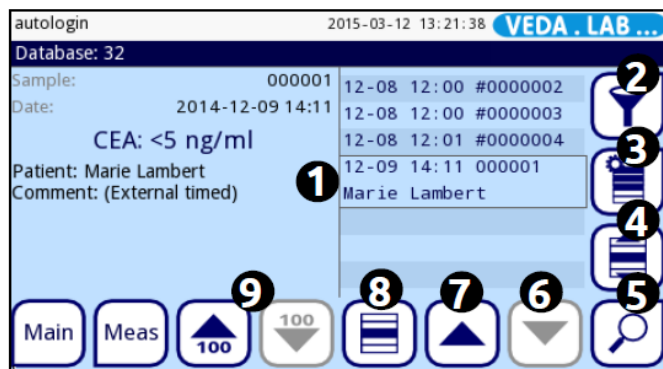
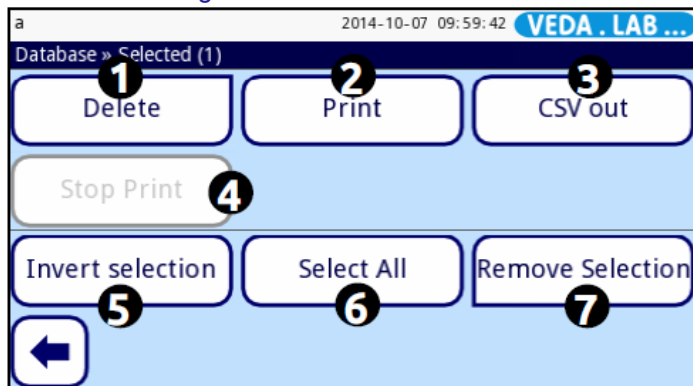
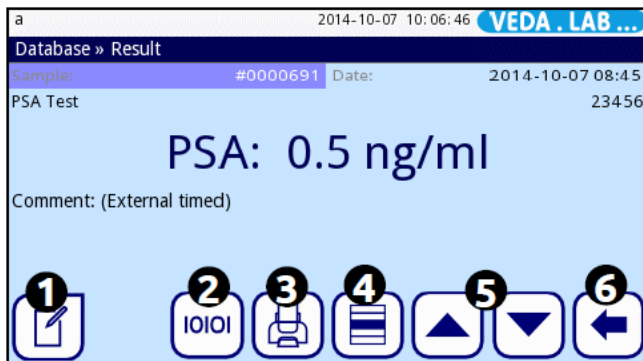
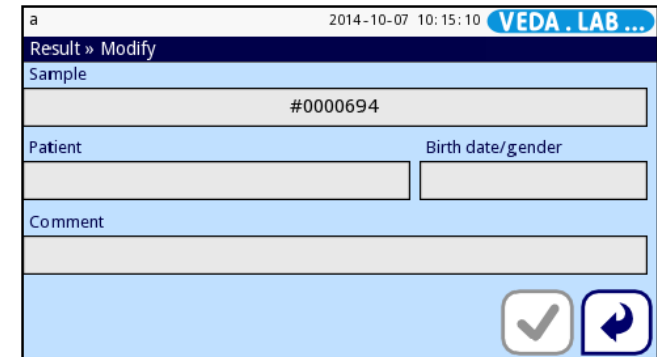

Figure 27: The Database screen with the screen elements labelled
Figure 28: The Database » Selected screen with the screen elements labelled.
Figure 30: The Database»Result screen, with the buttons labelled.
Figure 31: To add details to the test result record, tap inside the text boxes on the Result»Modify screen
2 To display the **Filter** screen, tap the  filter button on the **Database** screen (labelled 3 in Figure 27).
Tap the up and down arrows (labelled 6 and 7 in Figure 27) to move the cursor bar (labelled 1 in Figure 27) in the list of result records over the analysis record that you would like to select, and tap the selection button (labelled 8 in Figure 27). To cancel the selection of a previously selected record, tap the selection button a second time, or see 8.1.2.4.
If there are more than one hundred result records in the database, the **100 up/100 down** buttons (labelled 9 in Figure 27) become active. Tap these buttons to move the cursor one hundred records up or down in the database list.
- Using the up and down arrows (labelled 6 and 7 in Figure 27), move the cursor over each record that you would like to select, and tap the **Select** button (labelled 8 in Figure 27).
- Using the up and down arrows (labelled 6 and 7 in Figure 27), move the cursor over the first or last record in the list that you would like to select, and then tap the selection by movement button (labelled 4 in Figure 27). When you tap the up or down buttons, you will select a result record that is above or below the starting record in the database list.
**1** Select a record in the database (Cf. 8.1.2. Selecting test result records), and tap the **Review the selected record** button (labelled 5 in Figure 27).
**2** On the record details screen (Cf. Figure 30), use the **Up** and **Down** arrows (labeled 5 in Figure 30) to cycle through the details of the other records in the database list.
To invert the selection that you made (de-select previously selected records and select previously unselected records), tap the  **Actions with selected records** button (labelled 3 in Figure 27) and then, on the Database » Selected screen, the **Remove Selection** button (labelled 7 in Figure 28).
Tap the view selected record button on the **Database** screen (labelled 5 in Figure 27). The **Database » Result** screen (Cf. Figure 30) will be displayed, that lists all the data available for the test result record that was supplied by the operator or measured by the analyzer. You can modify but cannot delete the data here.
2 Tap the  **actions with selected records** button (labelled 3 in Figure 27), and on the **Database » Selected** screen, tap the **Delete** button (labelled 1 in Figure 28).
2 Tap the  review the selected record button (labelled 5 in Figure 27).
3 Tap the  Edit button (labelled 1 in Figure 30), and on the Result»Modify screen (Cf. Figure 31) tap inside the text boxes to start editing the data.
2 Tap the  actions with selected records button, and then the Text out button (labelled 3 in Figure 28).
- 2 Tap the  review the selected record button (labelled 5 in Figure 27).
- 3 Tap the  Transfer button (labelled 2 in Figure 30). The .txt file for the selected record will appear in the root folder of the connected USB flash drive.
- 2 Tap the  actions with selected records button, and then the **Print** button (labelled 2 in Figure 28).
- 3 Tap the  print button (labelled 3 in Figure 30). The system displays the I105 information message: **Selection was sent for printing**, and the built-in printer prints off the record.